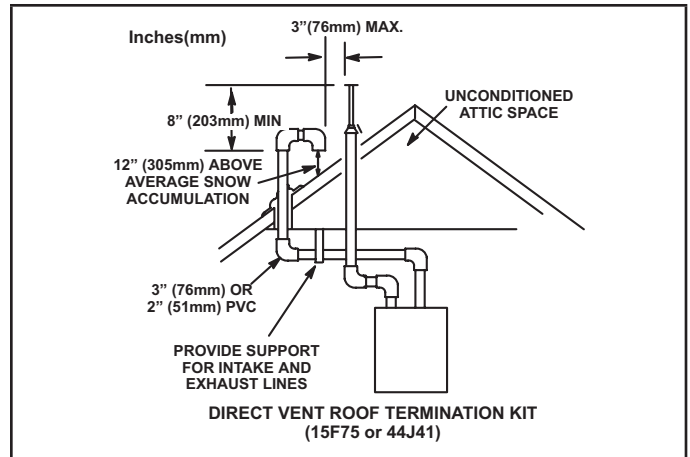

FIGURE 32
Intake and exhaust pipes may be routed either horizontally through an outside wall or vertically through the roof. In attic or closet installations, vertical termination through the roof is preferred. FIGURE 32 through FIGURE 40 show typical terminations.
- 3 - On roof terminations, the intake piping should terminate straight down using two 90° elbows (FIGURE 32).